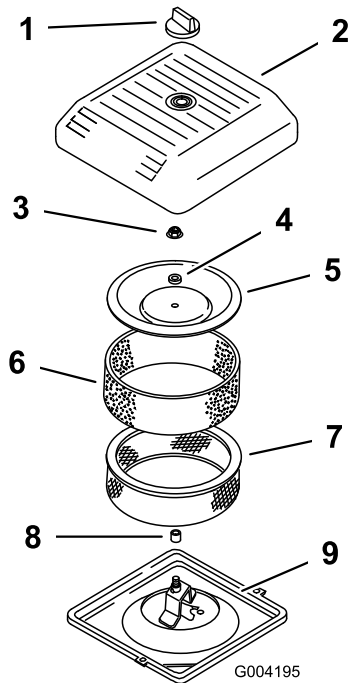

Figure 17
3. Unscrew the knob and remove the air cleaner cover (Figure 17).
- Carefully slide the foam pre-filter off of the paper element (Figure 17).
- Unscrew the cover nut and remove the cover, spacer and paper filter (Figure 17).
- Place the air cleaner assembly onto the air cleaner base (Figure 17).
- Install the cover, spacer and secure it with the cover nut (Figure 17). Torque the nut to 95 inch-lb (11 N·m).
- Install the air cleaner cover and secure it with the knob (Figure 17).